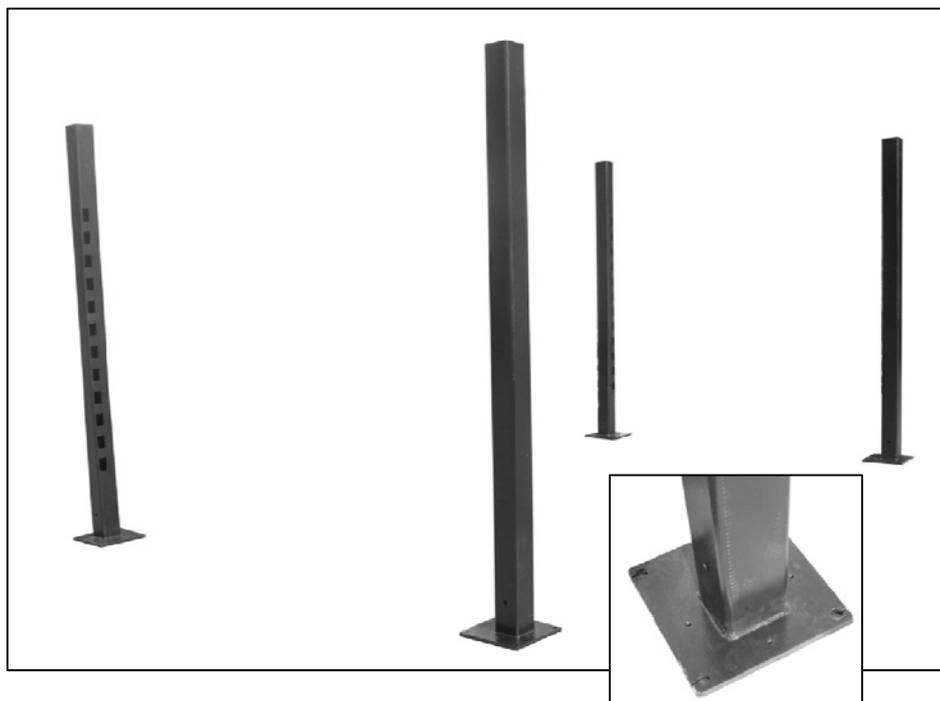

Fig. 11 (Main column with holes on base plate)
Step 4: Set up of columns (Fig. 11)
After unpacking, set up the four columns as Fig. 11